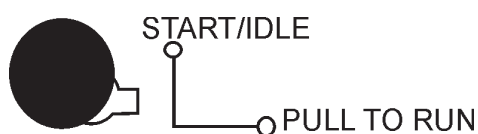

Figure 53. Engine Throttle Control
10. Once the engine has started, let it run for 3-5 minutes, then turn the throttle handle control (Figure 53) to the "**HIGH**" position.